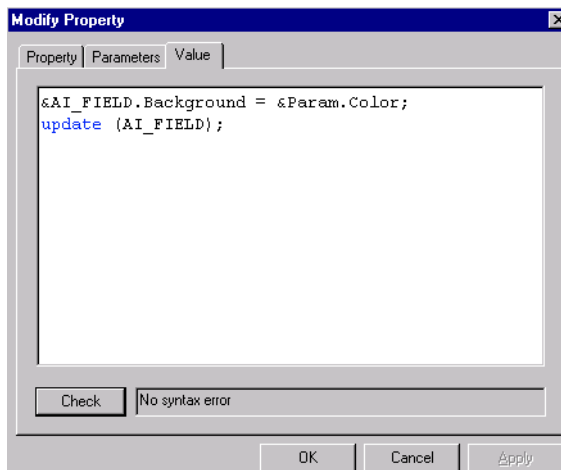

Figure 149. Script
- Enter the script as shown in Figure 149. When you are finished, click **Check** to check the syntax.